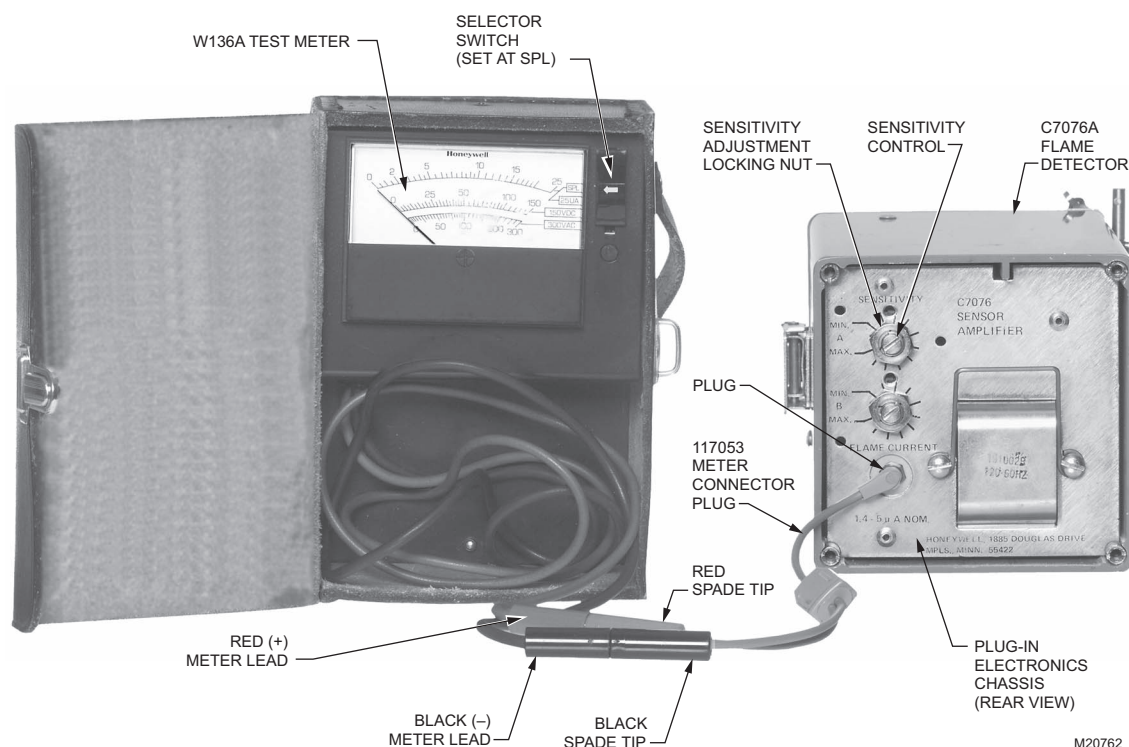

Fig. 17. Set up for Sensitivity Controls A and B adjustments, C7076A Detector.
- A 117053 Meter Connector Plug is needed (supplied with the W136A, or it may be ordered separately). Connect the red spade tip to the red (+) meter lead and the black spade tip to the black (-) meter lead. See Fig. 17.
- b. A 117053 Meter Connector Plug is needed (supplied with the W136A or it may be ordered separately). Connect the red spade tip to the red (+) meter lead and the black spade tip to the black (-) meter lead. See Fig. 17.
4. After each step in the following procedures, relatch the detector to the faceplate and check for a meter reading at the Flame Current jack on the detector (Fig. 17).